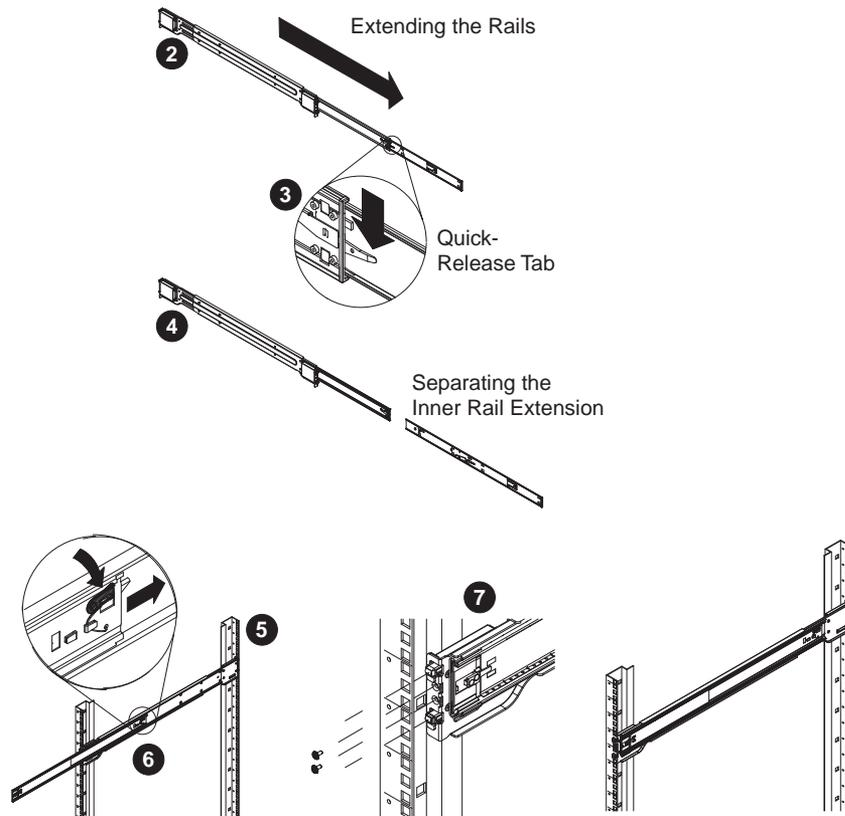

Figure 2-4 Outer Rack Rail Extension Example
4. Pull out and adjust both the short and long brackets to the proper distance so that the rail can fit snugly into the rack, reference Figure 2-4 on page 16.